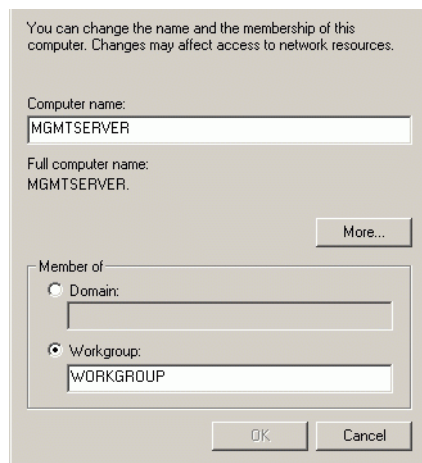

Figure 2-19 Identification Changes Dialog Box
3. Click *Properties*. The *Identification Changes* dialog box displays (Figure 2-19).